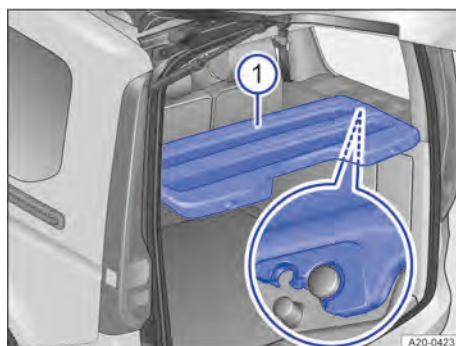

Fig. 149 In the luggage compartment: luggage compartment cover.
4. Push the luggage compartment cover until it has clicked into place in the large retainers → Fig. 149.
2. Engage the luggage compartment cover in the two smaller retainers → Fig. 149.